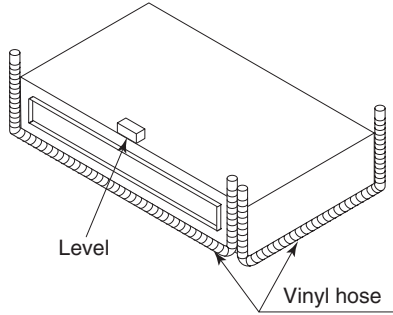

Fig. 3-12
- Make sure the unit is installed level using a level or a vinyl hose filled with water. In using a vinyl hose instead of a level, adjust the top surface of the unit to the surface of the water at both ends of the vinyl hose and adjust the unit horizontally. (One thing to watch out for in particular is if the unit is installed so that the slope is not in the direction of the drain piping, this might cause leaking.) (Fig. 3-12)